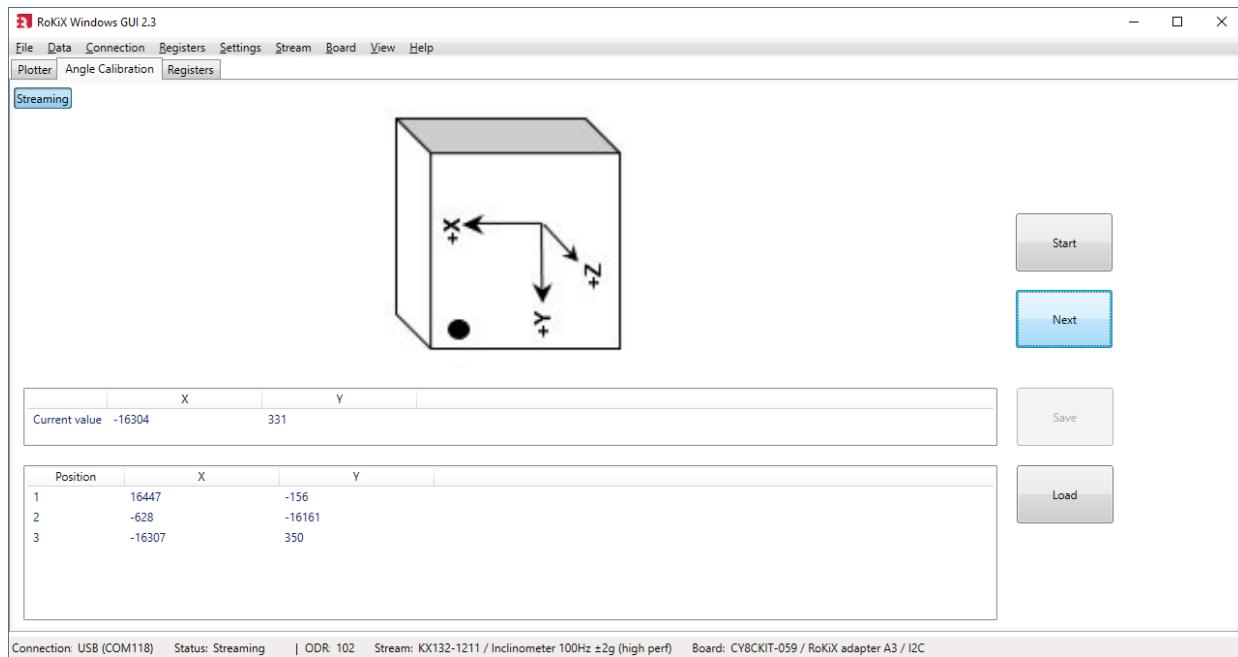

Figure 47: Angle Calibration. Position - 4
- Click Next and hold the device still until the diagram changes to the 4th position (Figure 47)